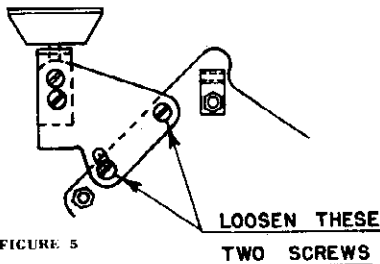

FIGURE 5
Check mesh of Worm Drive (17) and Main Cam (15) for proper clearance. Loosen screws on main bracket and tighten. (See Figure 5.)